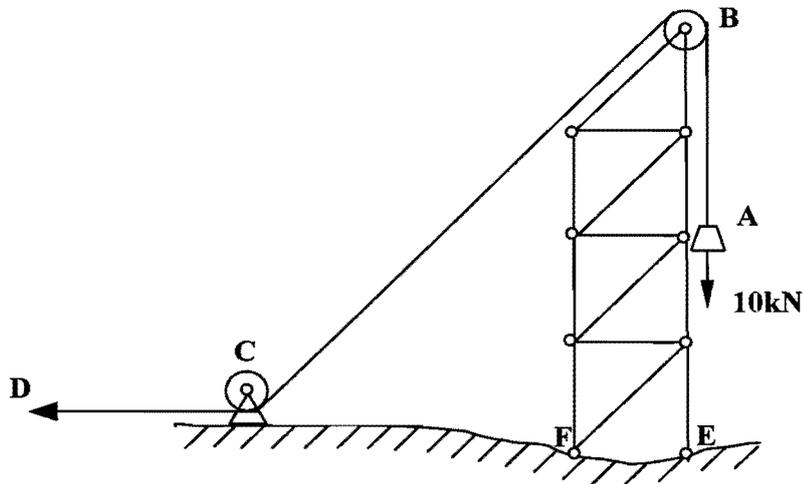

Figure 7
8. Figure 7 shows a tower. A smooth pulley turns on the pin at B. The rope ABCD runs over the pulley at B and round a second pulley at C. The rope is used to lift a weight of 10 kN at A by means of a winch at D. The straight lines in the figure are all horizontal, vertical or inclined at 45° .